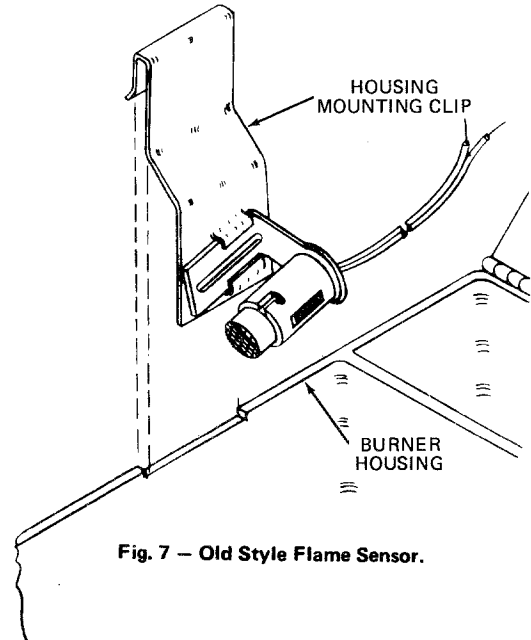

Fig. 7 – Old Style Flame Sensor.
C. Flame Sensor Mounted on Side of Burner Housing (Fig. 7)
1. Remove Housing Mounting Clip from side of burner housing as shown in Fig. 7. Then remove and discard old Flame Sensor from Housing Mounting Clip.